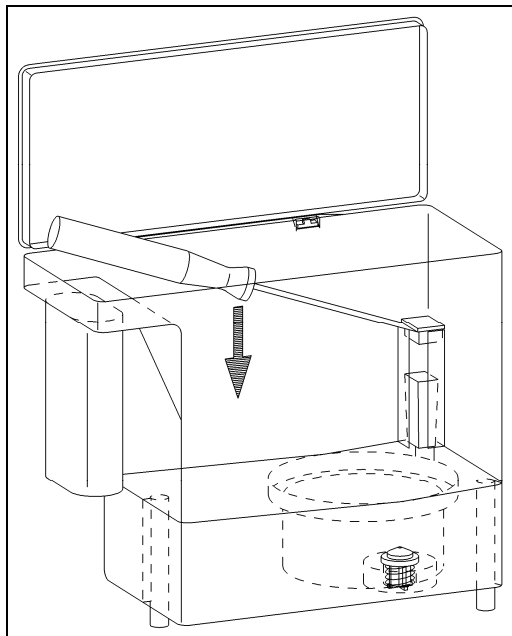

Figure 5-41: Water Tank Float Access
3. Remove the cap from the water tank float. See Figure 5-41.